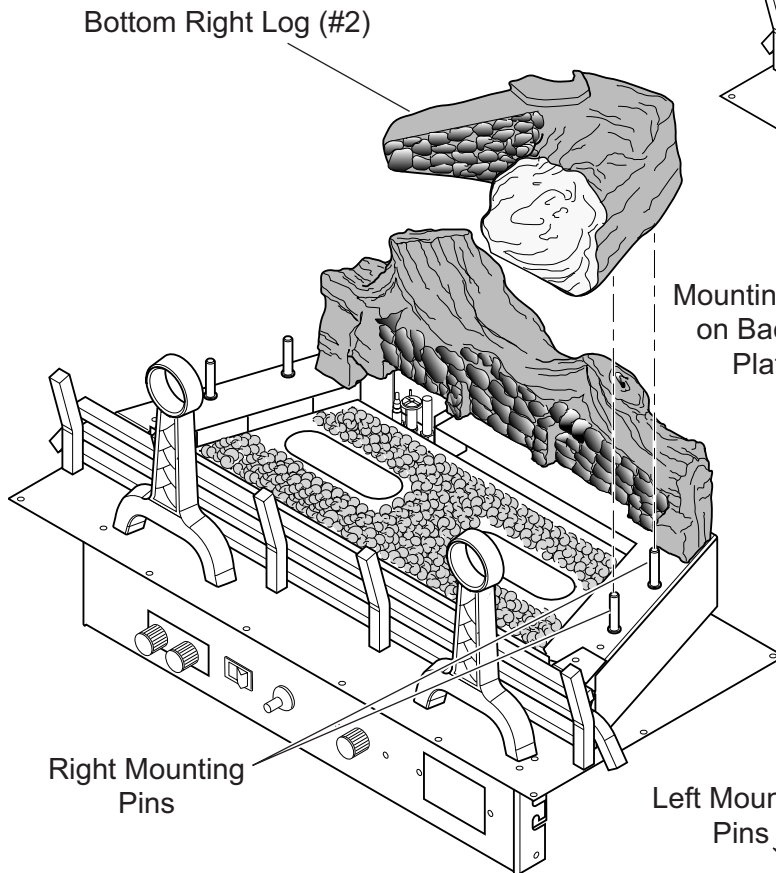

Figure 47 - Installing Bottom Right Log (#2)
2. Place bottom right log (#2) on grate. Log should rest firmly on two right mounting pins of plate. *See Figure 47.*